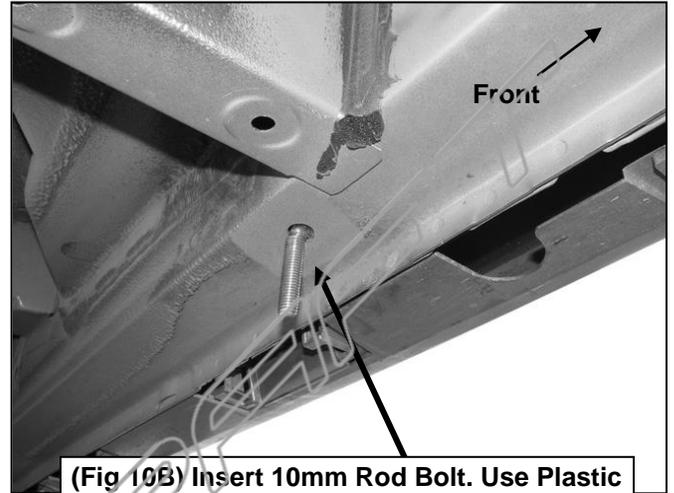

Fig 8
7. Select the driver side front Support Bracket. Secure the Bracket to the back of the front Mounting Bracket with (1) 10mm x 25mm Hex Bolt, (2) 10mm x 27mm STD Flat Washers and (1) 10mm Flange Nut, **(Fig. 7)**. Leave hardware loose at this time. Bolt the inner end of the Support Bracket to the Bolt Plate with (1) 10mm x 27mm STD Flat Washer and (1) 10mm Flange Nut, **(Fig. 8)**. Snug but do not fully tighten hardware at this time.